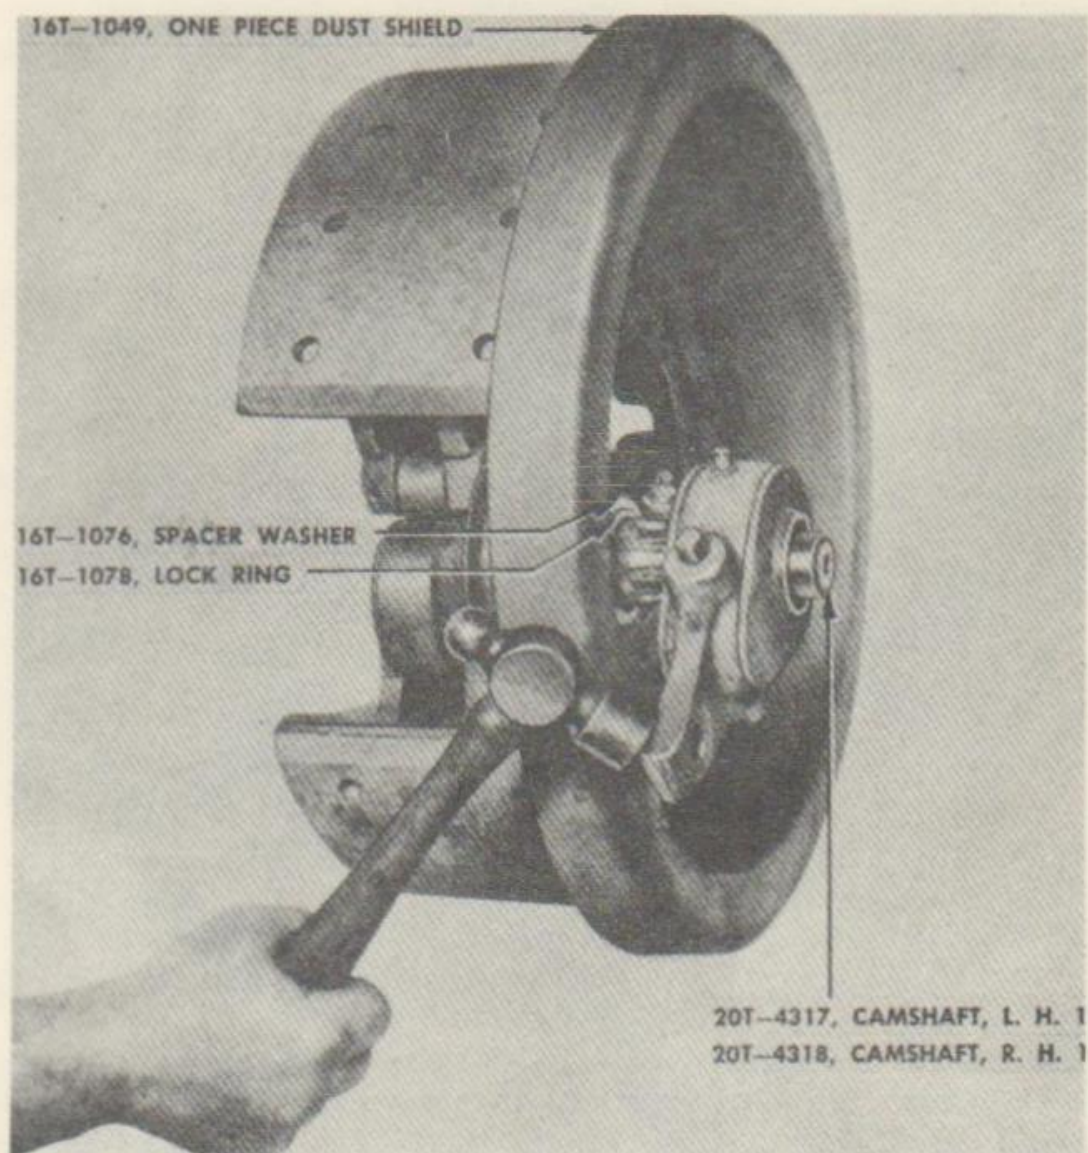
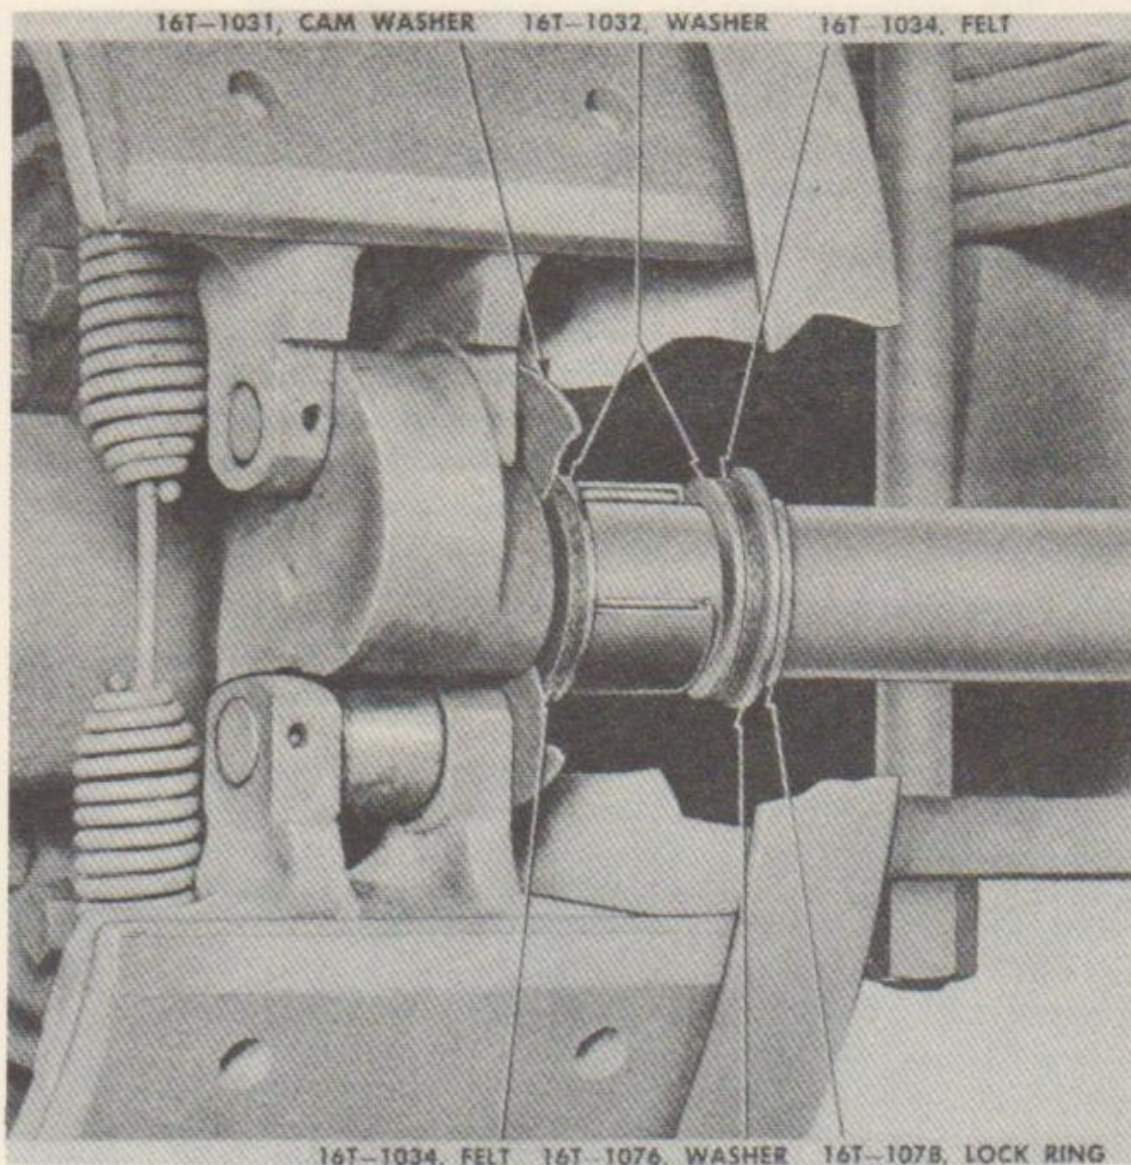

FIGURE 41. REMOVING SLACK ADJUSTER
FIGURE 45. SECTIONAL VIEW OF CAM INNER PARTS
(4) Tap slack adjuster off camshaft. Remove six cap screws and lock washers from dust shield and lift the one-piece dust shield off brake spider (fig. 41).
(5) Remove locking wire from the two anchor pin cap screws and remove the two cap screws. Pry lock ring from the two anchor pins
- (2) Fasten dust shield to brake spider using six lock washers and six cap screws.
- (3) Place slack adjuster on camshaft, making certain the adjusting screw will be facing towards front of trailer after brake assembly is installed on axle (fig. 41).
(1) **REMOVAL**—Remove wheel and tire assembly as one unit if slack adjuster on outer wheels are to be replaced (para. 74). Remove inner wheel and drum assembly if slack adjuster on inner wheels are to be replaced. Remove brake assembly (para. 58 a.) and tap slack adjuster off camshaft (fig. 41).
(2) **INSTALLATION**—Install slack adjuster on camshaft (para. 61 b. (2)). Install brake assembly (para. 58 c.). Install wheel (paras. 74 b. and 76 b.).
b. Removal. Remove wheel assembly (para. 76 a.). Remove slack adjuster (para. 61 b. or 61 c.). Uncouple retracting spring between the two brake shoes and turn top towards rear of vehicle. Remove lock ring at inner side of cam (fig. 45). Drive cam out of brake spider.
d. Installation. Install cam in brake spider (fig. 45). Install slack